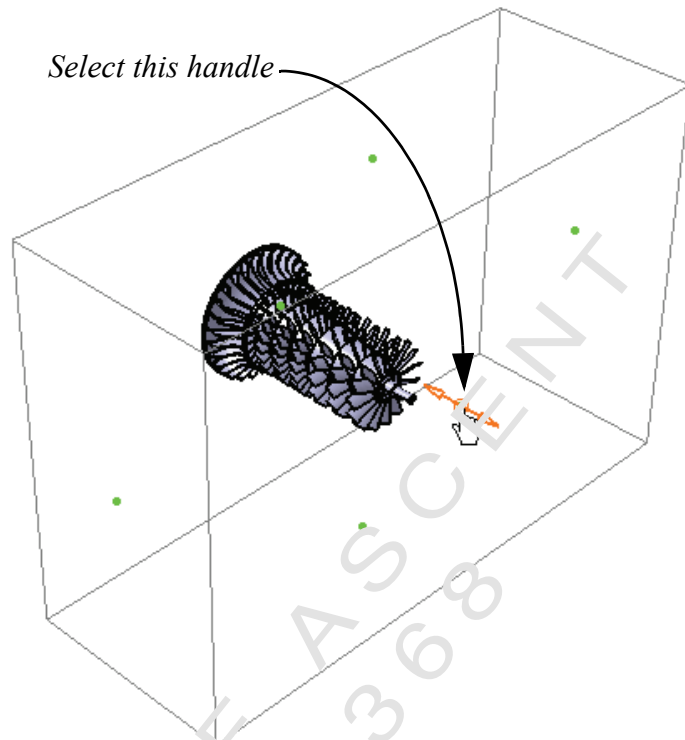

Figure 1–75
3. Drag the handle to the location shown in Figure 1–76.